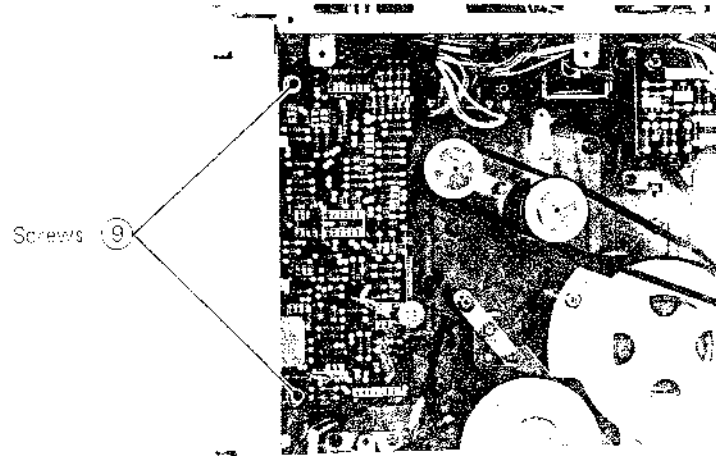

Fig. 3-17
1. Take out 2 screws (9) shown in Fig. 3-17